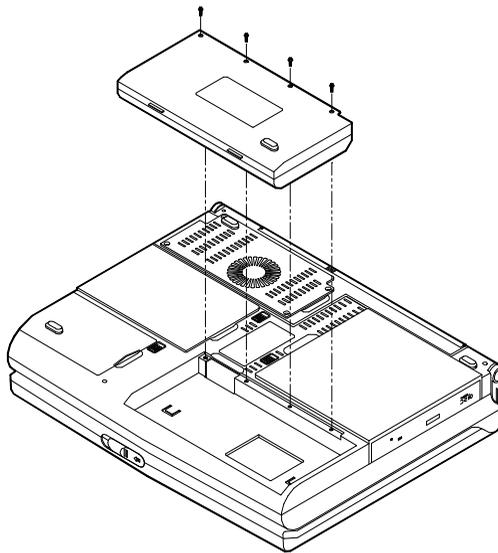

Figure 1-4
3. Install the four screws to fasten the battery pack (Figure 1-4).